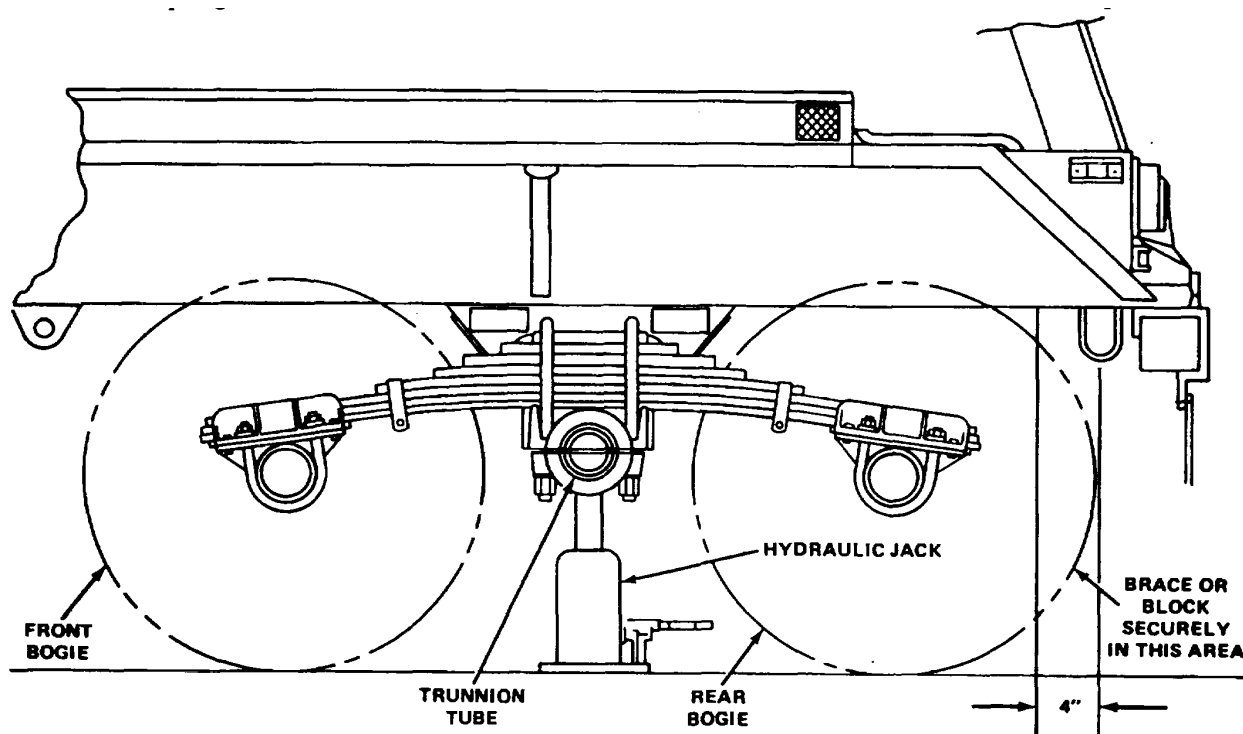

Figure 5-4. Suspension Assembly
*a. Removal, Fig. 5-4.*
(1) Position semitrailer on hard level surface with front resting on landing gear.
(3) Loosen wheel lug nuts while wheels are on ground.
(4) Jack up rear of semitrailer and support under frame securely until weight of semitrailer is removed from springs and axles.
(5) Remove wheels from both axles, para 4-51.
(6) Remove both axles, para 5-9.
(7) Position a jack under the trunnion tube close to the inside of each trunnion hanger.
(8) Raise jacks just enough to support trunnion tube.
(9) Remove four nuts, four washers, and four bolts which fasten the trunnion hanger to the mounting bracket. Repeat for opposite side.
(10) Slowly lower suspension and support trunnion tube.
*b. Disassembly, Fig. 5-4.*
(1) Use lifting device to support spring.
(2) Remove four nuts and four washers from U-bolts.
(3) Remove two U-bolts and wear plate.
(4) Using lifting device, lift spring from upper trunnion hub and remove it from the suspension.
(1) Place a jack under trunnion tube close to inside of each trunnion hanger, and slowly raise suspension into position under trunnion support brackets.
(2) Aline holes in the trunnion hanger with holes in the mounting bracket.
(3) Install four bolts, four washers, and four nuts. The nuts are tightened, jack up the suspension to seat the trunnion hanger. Tighten nuts evenly to 90 lb ft.
(4) Tighten two trunnion hanger capscrews and nuts.
(5) Repeat steps (2) through (4) for opposite side.
(6) Install both axles, para 5-9.
(7) Install wheels on both axles, para 4-51.
(8) Remove supports and jacks, and lower rear end of semitrailer to ground.
(3) Loosen wheel nuts while wheels are on ground.
(4) Position jacks just inboard of the spring end up on axle. Jack up axle to be removed until wheels clear the ground.
(5) Remove wheels, para 4-51.
(6) Raise rear of semitrailer with an overhead crane or A-frame support until weight of springs has been removed from axle. Block frame securely, fig. 5-4.
(7) Remove brake air chambers, para 4-42.
(8) Remove four nuts, four washers, and four bolts which fasten the spring end cap to spring seat on axle.
(9) Remove four nuts, four washers, and two U-bolts which fasten the spring seat on axle to the spring end cap.